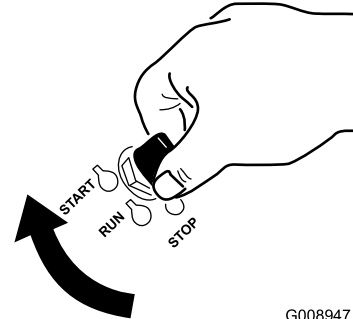

Figure 16
1. Turn the ignition key to the START position (Figure 16).